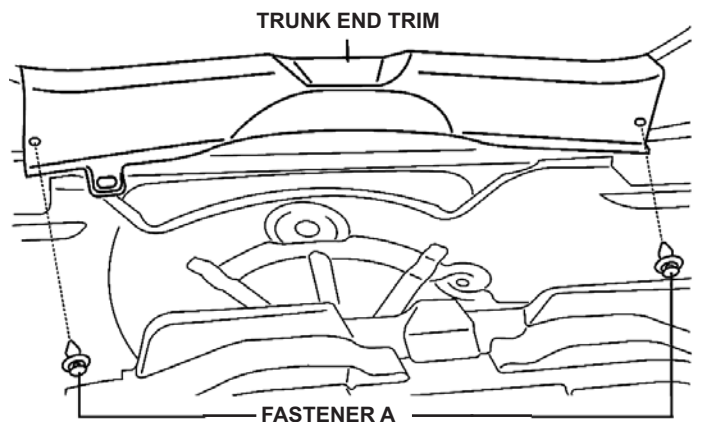

FIGURE 41
- 1.) REMOVE THE TWO FASTENERS A. (SEE FIGURE 41)